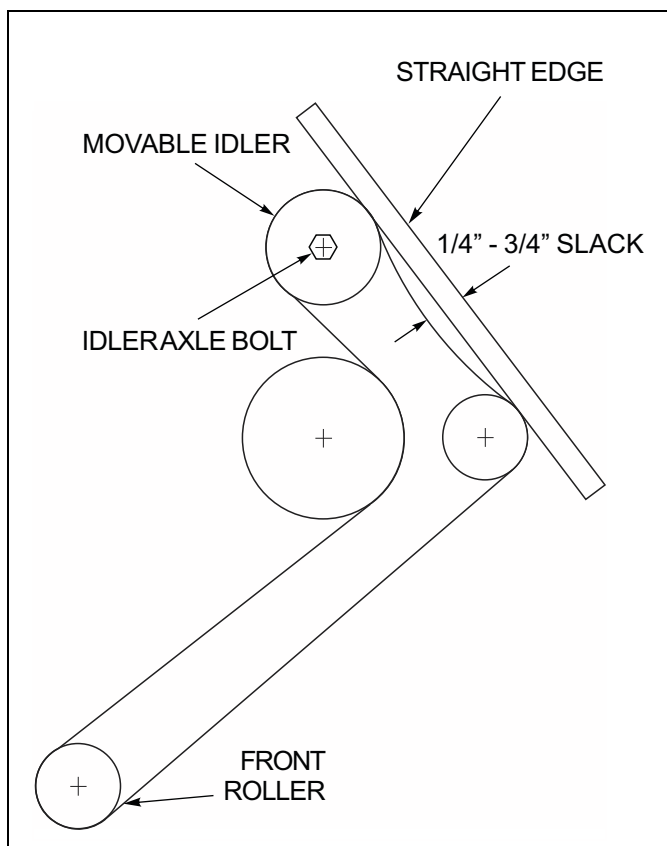

Figure 4-2 Chain Tension
3. Use the bolt to obtain about 1/4" - 3/8" of sag in the chain. See Figure 4-2.